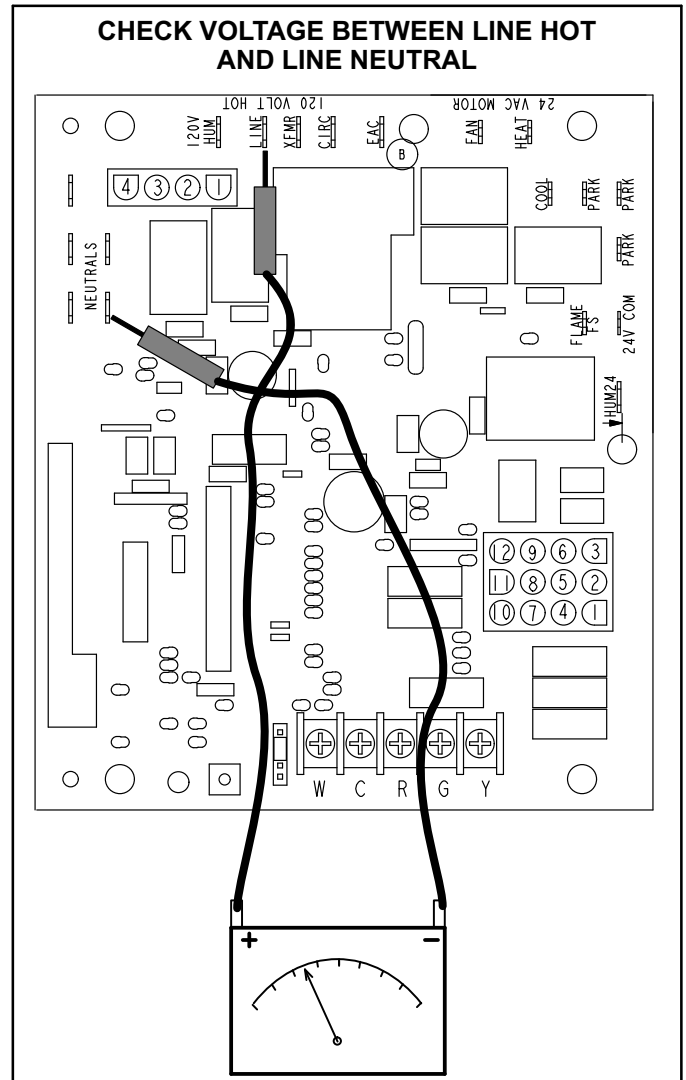

FIGURE 20
- 2 - In addition, measure the AC voltage from Line Hot to Line Neutral (spade terminals) on the integrated control. See figure 20. This voltage should be in the range of 97 to 132 Vac